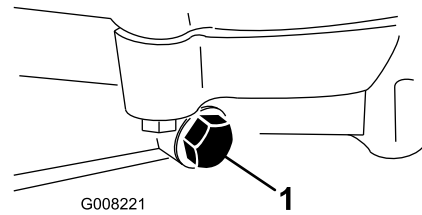

Figure 48
4. Place a pan below the drain plug (Figure 48).